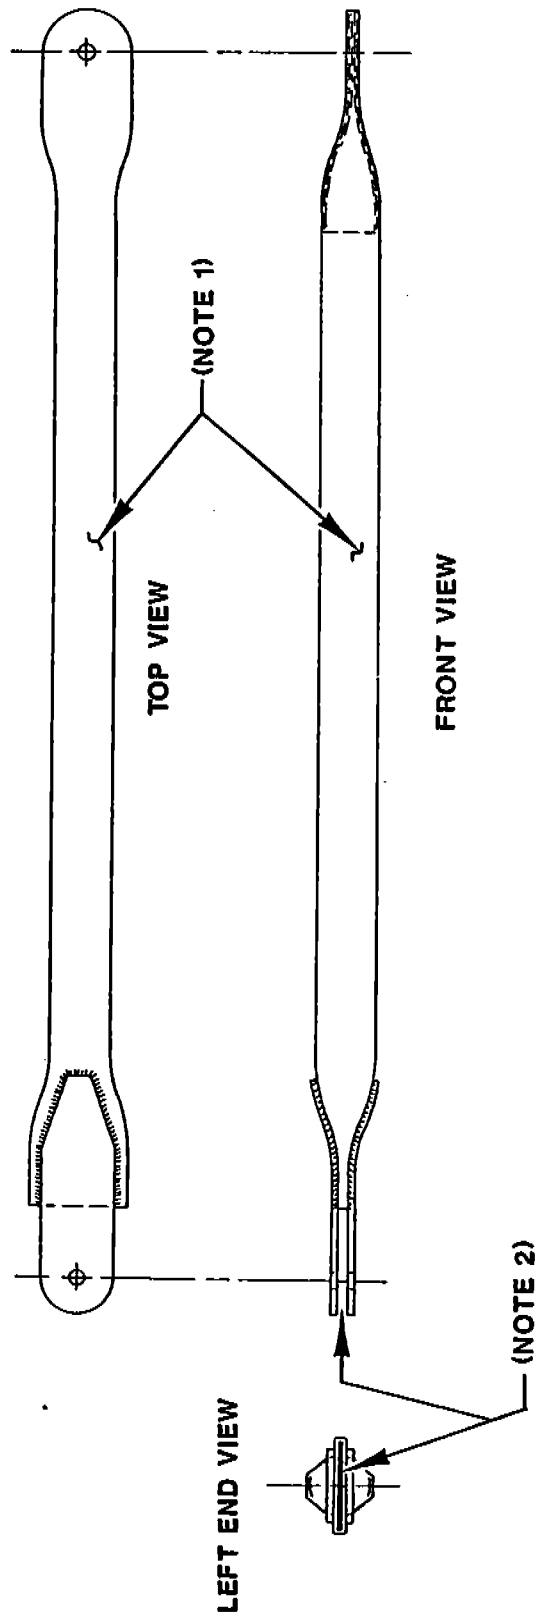

FIGURE 1. ELEVATOR PUSHROD (P/N 26B-12 -1A)
- c. Inspect exterior of push rod for corrosion. No exterior corrosion is allowed. (Refer to Figure 1.)
- d. If no exterior corrosion is found, use a high intensity light to inspect the push rod interior surface through the open end of the tube. (Refer to Figure 1.) No interior corrosion is allowed.